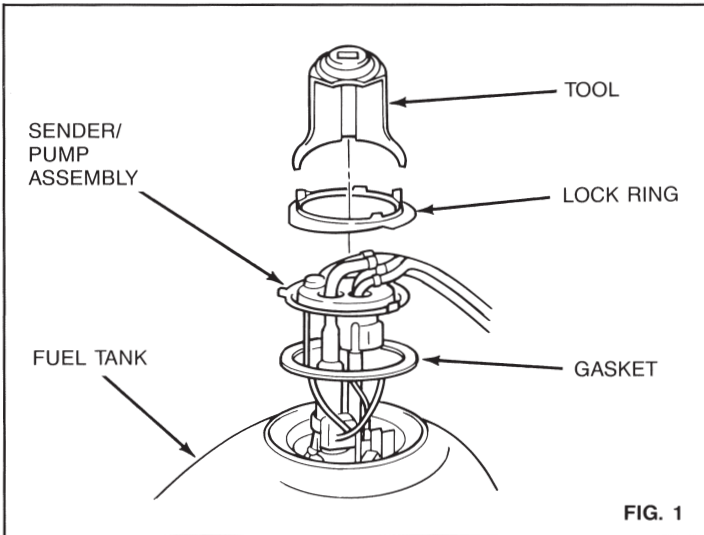

FIG. 1
1) Explorer uses a metal ring that has tabs that mate with an embedded ring in the fuel tank (see fig. 1). Ford makes a special service tool for removing this ring. The special tool for this job is best, although other methods may be used. Whatever method is used, do not use any that can cause sparks and a resultant fire or explosion.